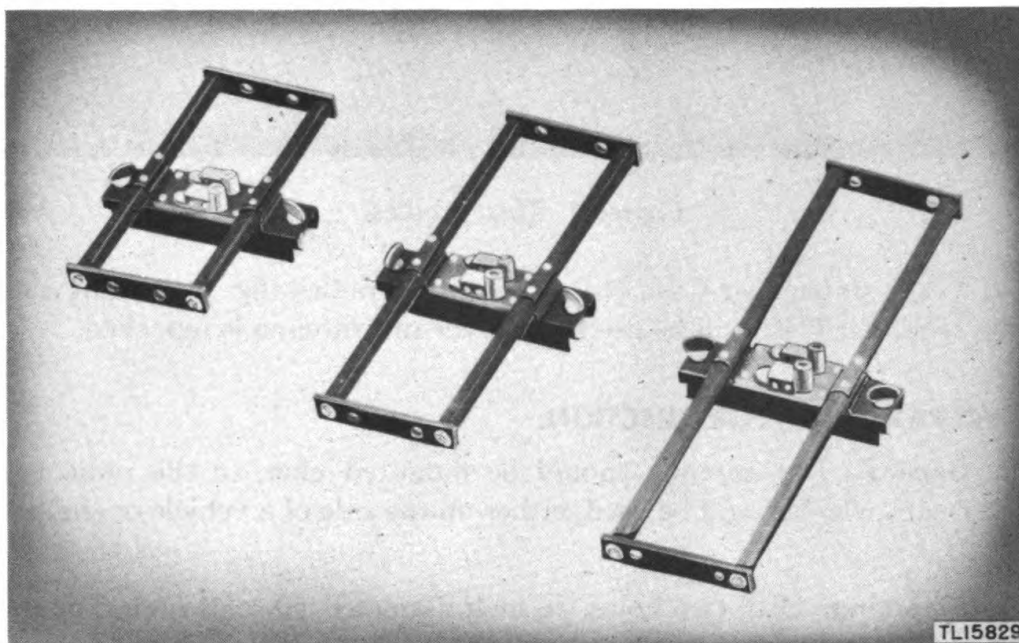

Figure 4. Dipole mounting assemblies.
- (1) Raise and support the mast from the ground at a distance sufficient to provide for assembly and protection of the dipole mountings and antenna elements.
- (2) Attach the six dipole mounting assemblies (fig. 4) to the top mast section so that the cable plug holes are toward the base of the mast. Attach the dipole mounting assemblies marked TIER-1 to the top position, and TIER-2 and TIER-3 to the middle and bottom positions, respectively. Wing screws which screw into threaded inserts brazed to the mast are provided to hold the assemblies in position.